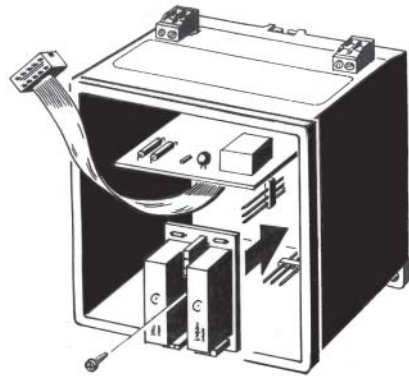

Fig. 4.4
- Plug the first relay module carefully to module 1. Note that the pins are not bent (see fig. 4.4).